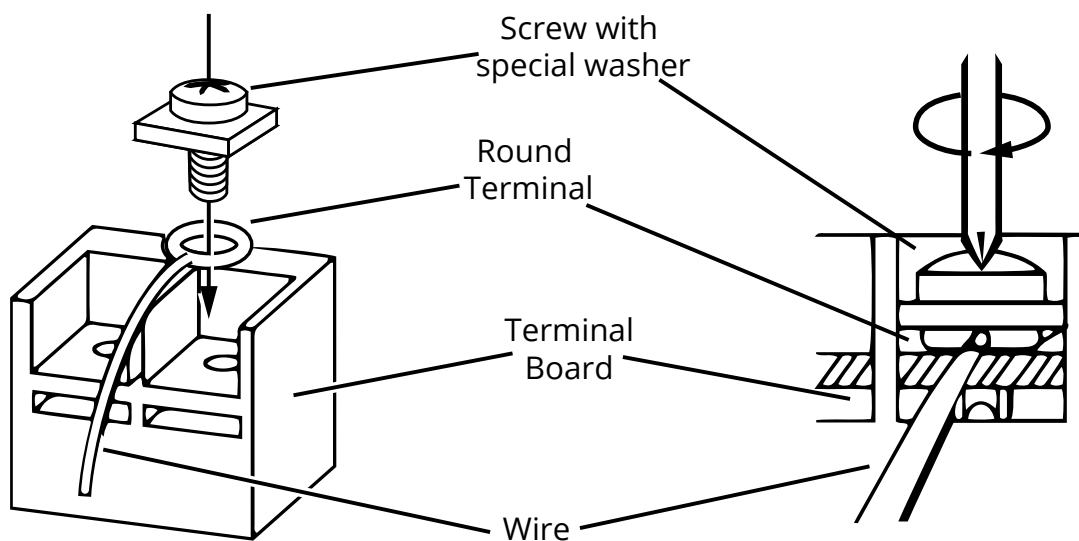

Fig. 2.29
#### For braided wires (Refer to Fig. 2.28 B & Fig. 2.29):
4. Locate the round terminal conduit. Use a screwdriver to replace it and tighten up the terminal screw, as shown in **Fig. 2.29**.